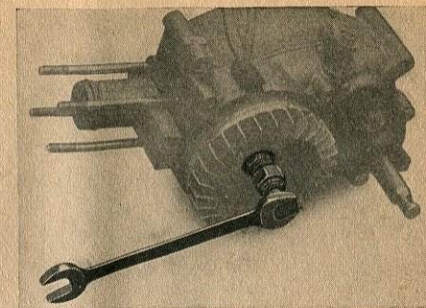

Figure 8: Magneto Withdrawing Tool, Part No. for Bosch Magneto 093006, for Siba-Magneto 093009
2. Magneto Withdrawing Tool (Fig. 8).